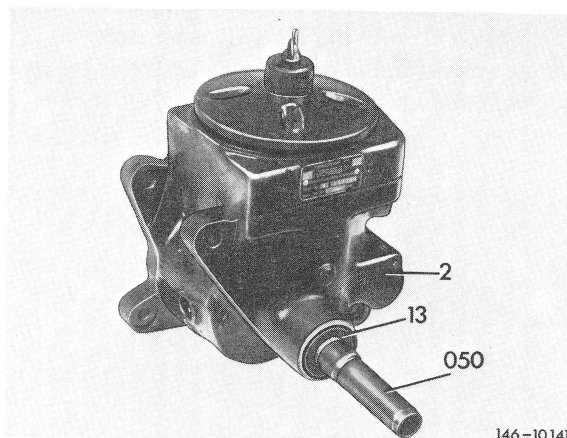

Fig. 13
16 Screw guide sleeve (050) onto drive shaft and press radial sealing ring (13) with punch (053) into housing (Fig. 13 and 14).